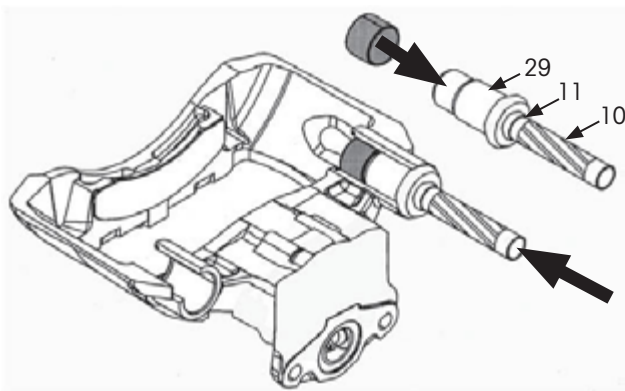

Figure 55: Inserting long guide inner bushing
- A. Assemble and use 10, 11 and 29 to press the inner bushing into the bore of the brake caliper until the tool stops (Figure 55).